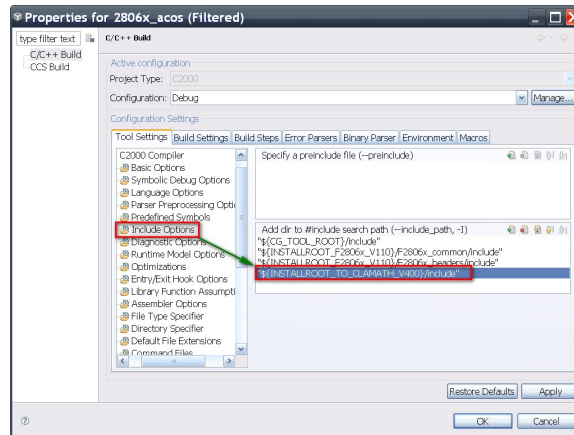

Figure 4.3: Adding the Include Search Path for the Library
1. Go to the **Project Properties->C/C++ Build->C2000 Compiler->Include Options** (see Fig. 4.3) and add the relative path, **INSTALLROOT_TO_CLAMATH_VERSION** (VERSION is the current version of the library), to the list of search directories. The macro **INSTALLROOT_TO_CLAMATH_VERSION** is specified in the **macros.ini** file in each example, however, you may have to redefine the path in your project depending on where the library is situated in the local machine.